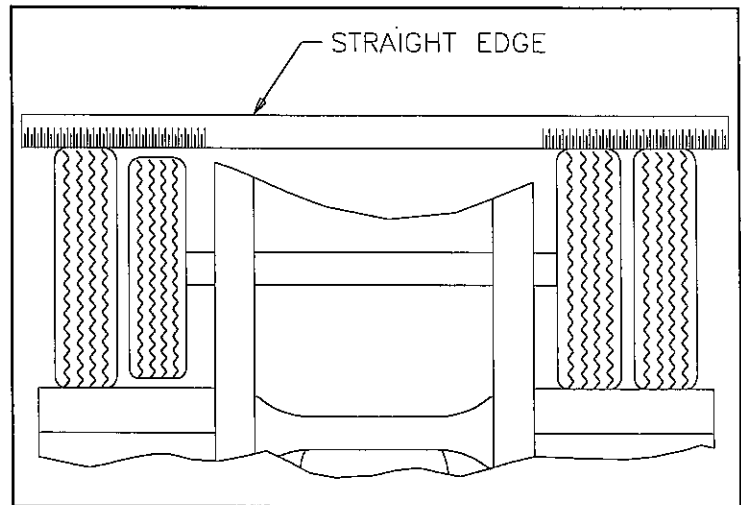

Fig. 4-17 Straight Edge Method
a. Tape Measuring Method: Measure around each tire on the tread surface. A maximum difference of $3/4$ " is allowed between the two mating tires of a dual (See **Figure 4-17**).